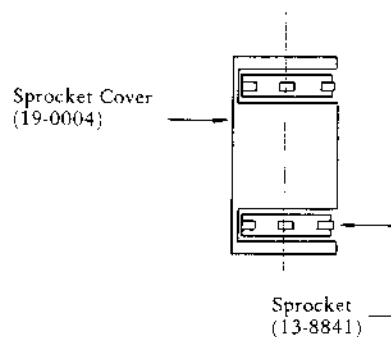

Fig. 9
- 3) Place the pawl of Sprocket (13-8841) at the position in Fig. 9.